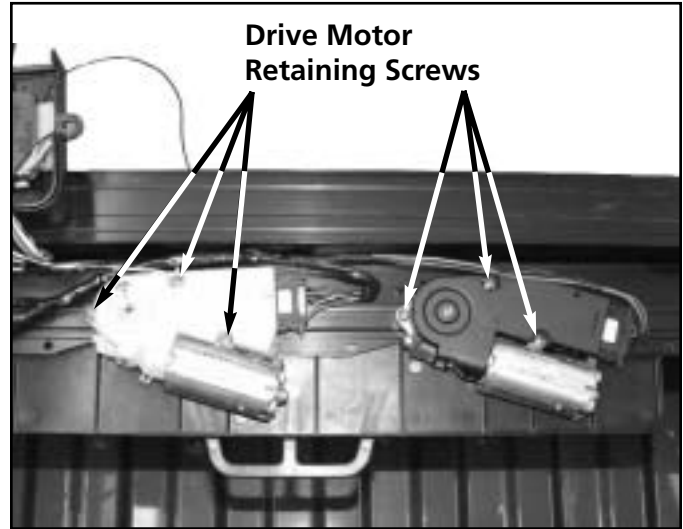

Figure S-71
4. Remove the three (3) motor retaining screws from each motor and remove the motors with the wire harness connected. Note the position and location of each motor. See figure S-71.
18. Install the lower motor cover and fasten it with the retainer screws for the motor assemblies. Refer back to figure S-71.